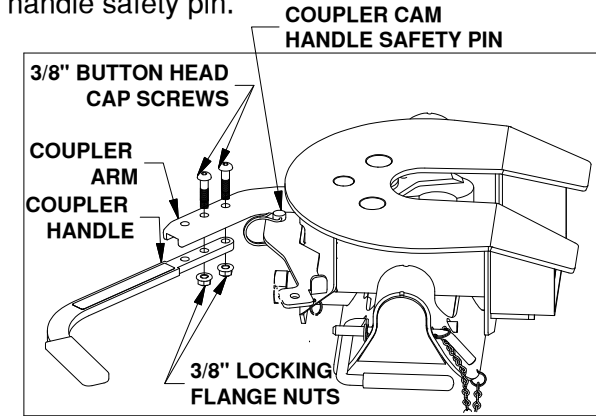

Figure D1: View looking down at side of coupler head.
- Open coupler.** Locate the two 3/8" x 1-1/4" button head cap screws and the two 3/8" flanged lock nuts provided in a bolt bag. Pull out the coupler arm and pin it with the safety locking pin near the base of the arm as shown in Figure D1.
- Secure handle.** Using the button cap screws and the lock nuts attach the coupler handle to the arm and tighten, see Figure D1. Pull out the coupler cam handle safety pin.